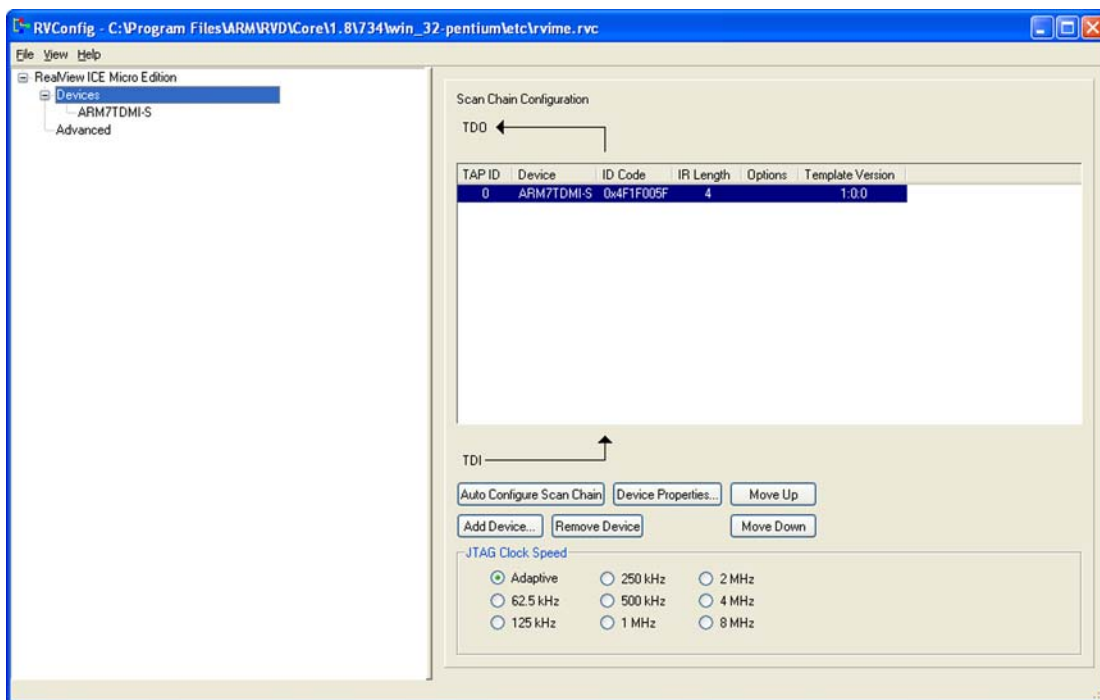

Figure 5-69. RealView Debugger RVConfig Dialog Box
4. Click the **Auto Configure Scan Chain** button in the RVConfig utility. After a few seconds, the ARM7TDMI-S processor will be identified, as shown in Figure 5-69.